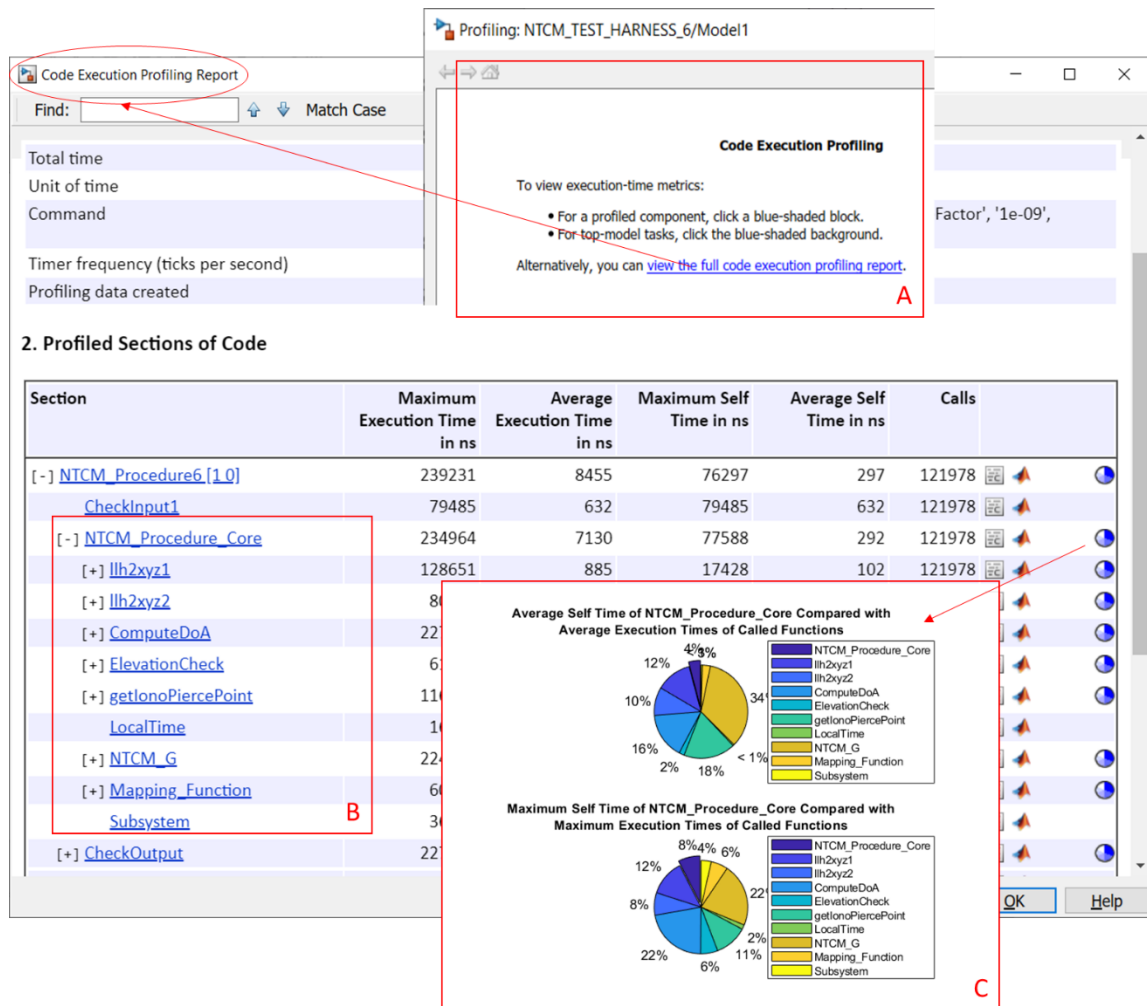

Figure 9 : Code Generation Report
- b) The *code execution profiling* report which provides metrics based on data collected from a SIL execution: execution times and CPU Utilization are calculated from data recorded by instrumentation probes added to the SIL test harness or inside the code generated for each component. To access the code execution profiling, the user can click the hyperlink in the window available after simulation (Figure 9). Just as for the code generation report, the user can navigate the profiler through the function tree and learn how each sub-function contributes to the whole computational load.